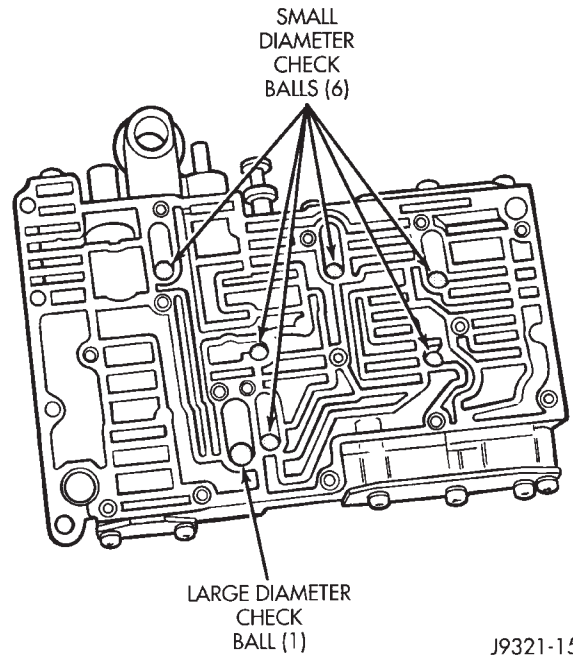

Fig. 81 Check Ball Locations In Upper Housing
(1) Position upper housing so internal passages and check ball seats are facing upward. Then install check balls in housing (Fig. 81). Seven check balls are used. The single large check ball is approximately 8.7 mm (11/32 in.) diameter. The single small check ball is approximately 4.8 mm (3/16 in.) in diameter. The remaining 6 check balls are approximately 6.3 mm (1/4 in.) in diameter.